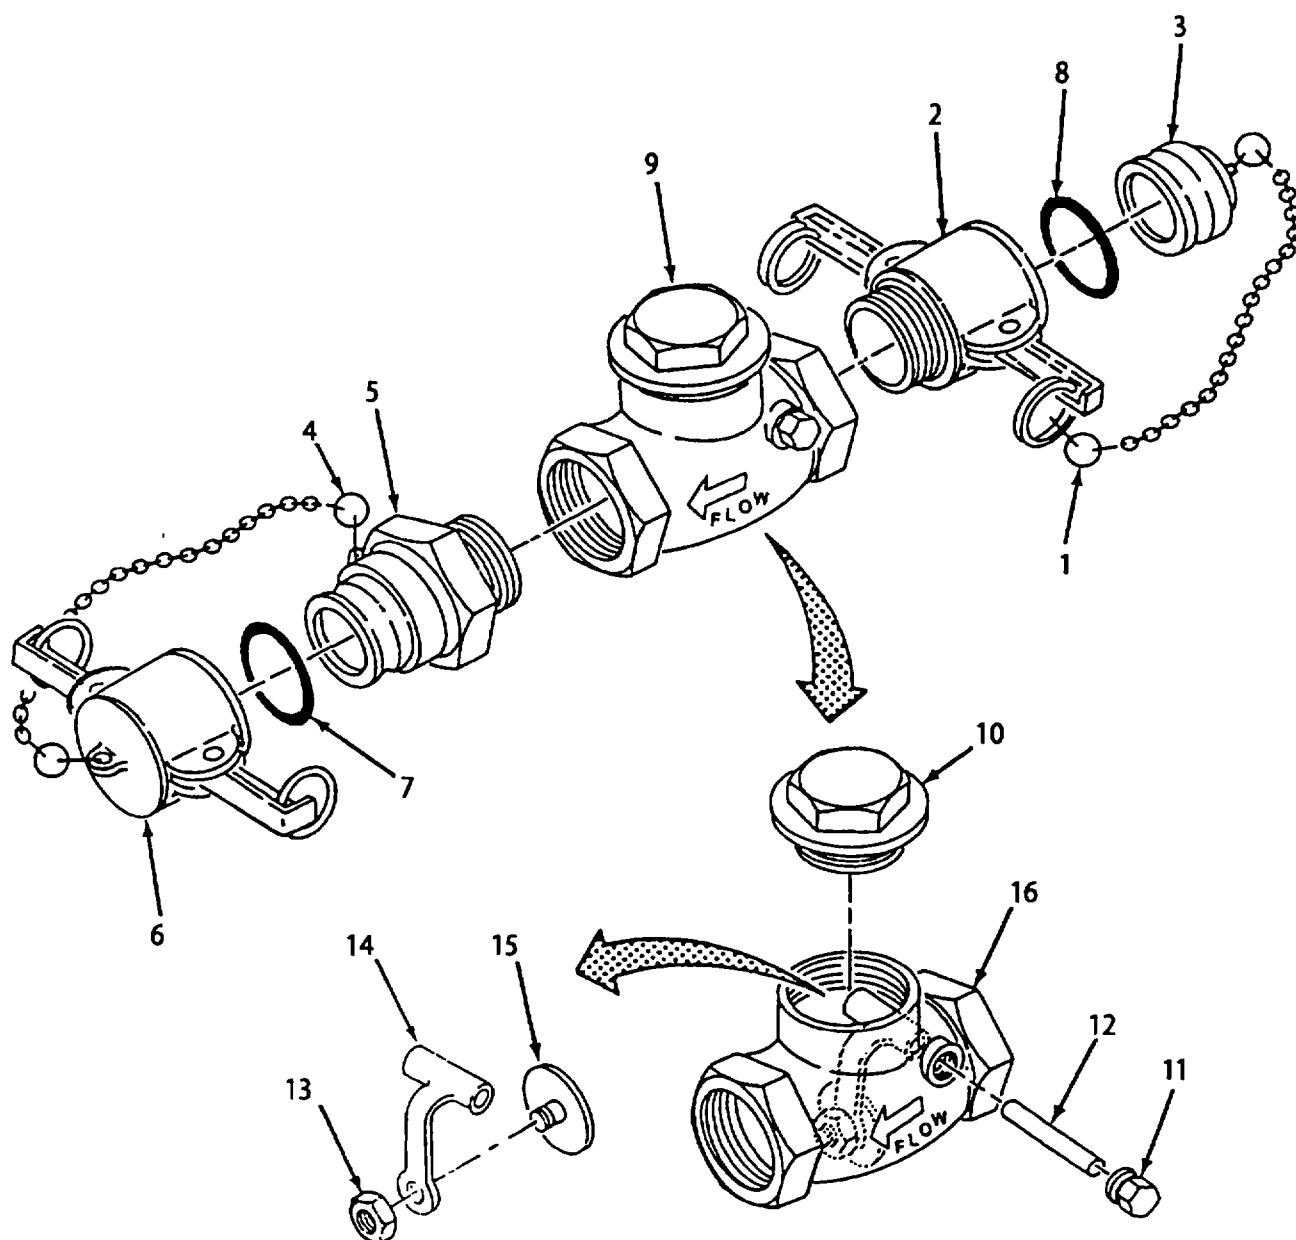

Figure 4-11. Check Valve Assembly (2-Inch) Repair
a. Disassembly. Refer to Figure 4-11.
- (1) Disconnect split ring (1) from female coupling (2) and remove dust plug (3).
- (2) Disconnect split ring (4) from male coupling (5) and remove dust cap (6).
- (3) Remove gasket (7) from dust cap (6).
- (4) Remove gasket (8) from female coupling (2).
- (5) Place check valve assembly in vice.
- (6) Remove male coupling (5) from assembly valve (9).
- (7) Remove female coupling (2) from assembled valve (9).
- (8) Remove cap (10) from body (16).
- (9) Remove plug (11) from body (16).
- (10) Pull pin (12) out from body (16) and lift out lever (14) and attached parts.
e. Assembly. Refer to Figure 4-11.
- (1) Position disc (15) on lever (14) and secure with nut (13).
- (2) Lower lever (14) and attached parts into body (16). Make sure sealing surface of disc (15) is positioned as shown.
- (3) While aligning hole in lever (14) with hole in body (16), insert pin (12) through body and lever. Make sure pin is fully seated.